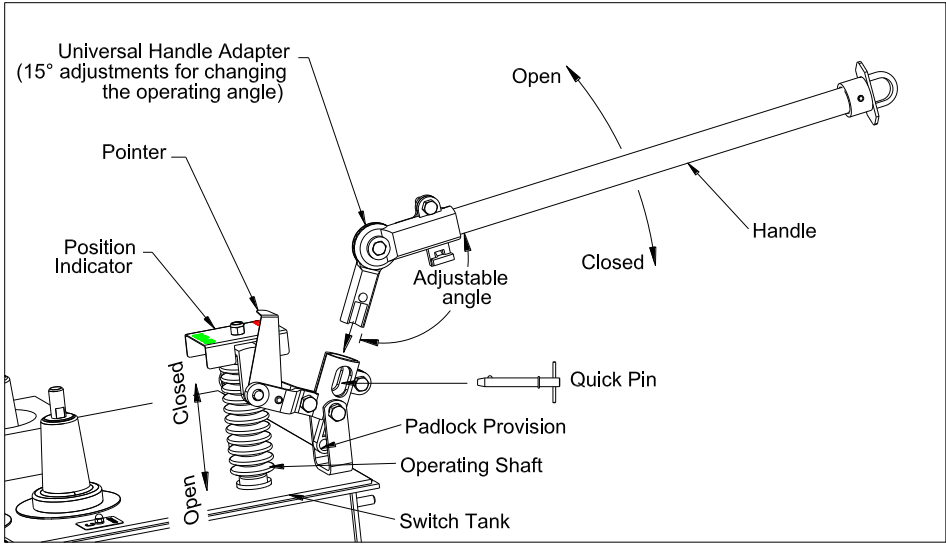

Figure 1: Removable Operating Handle for Subsurface SF6 Switches
5.2.1. Removable Operating Handle Installation (see figures 1 and 2)
To operate the switch open or close, first check the present position of the switch. Use the permanently mounted handle or install the handle adapter into the operator casting on the switch and push or pull the operating handle toward the desired position (see figures 1, 2 & 3). The operating shaft will travel 3\" (toward the tank to Open the switch and away from the tank to Close the switch), when the operating handle rotates approximately 60 degrees, before the spring mechanism inside the switch tank is fully charged and unlatching will occur. The switch contacts will remain latched until released by action of the spring mechanism. At that point, the switch contacts move rapidly from one position to the next position independent of the operator's speed. Contacts will latch in the new position when the switching action is completed. The pointer indicates the switch contact position when the spring is unarmed. Avoid excessive force and speed when manually operating.